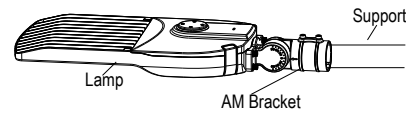

Figure 19
Step 2: Position the bracket into the pole and tighten the four bolts (Figure 19).